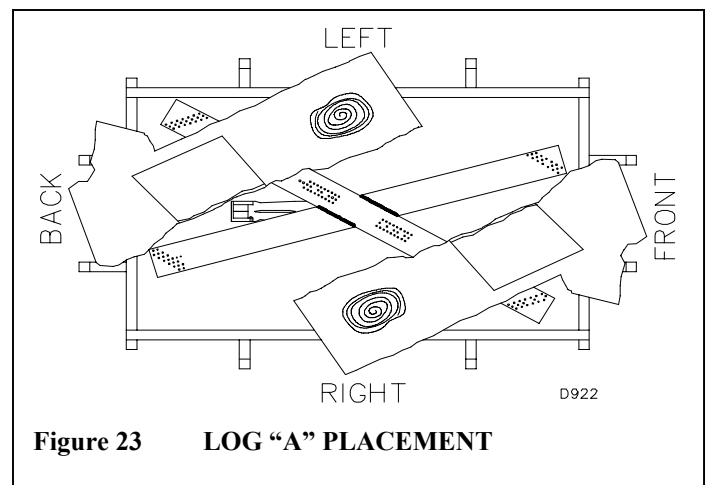

Figure 23 LOG “A” PLACEMENT
8. Place logs “A” as shown in figures 23 and 24.